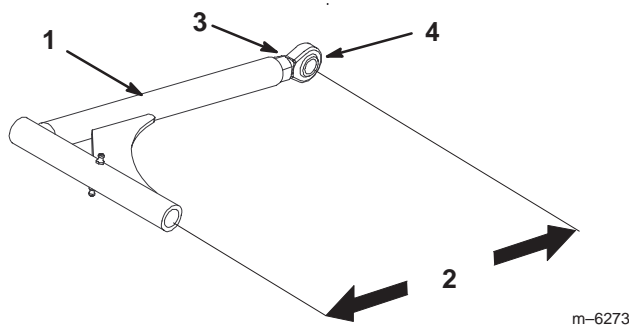

Figure 66
9. If the fixed idler contacts the end of the adjustment slot and more belt tension is required, a small change to lengthen the push arms can be made (Fig. 66).